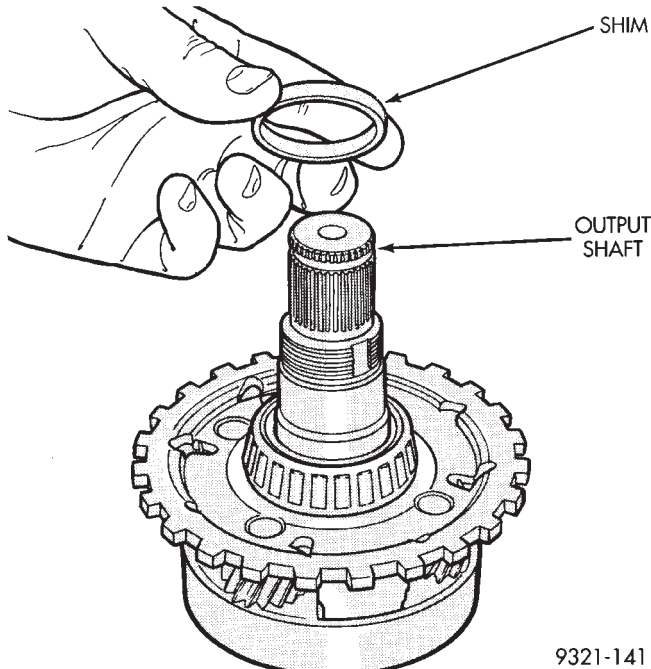

Fig. 149 Shim Installation
(4) Install shim on output shaft (Fig. 149). Apply small amount of petrolatum onto the shim to hold it in place. Use the original shim as a starting point. If original shim is not available, use the thickest shim available. Refer to Output Shaft Rear Shim Chart for available sizes.